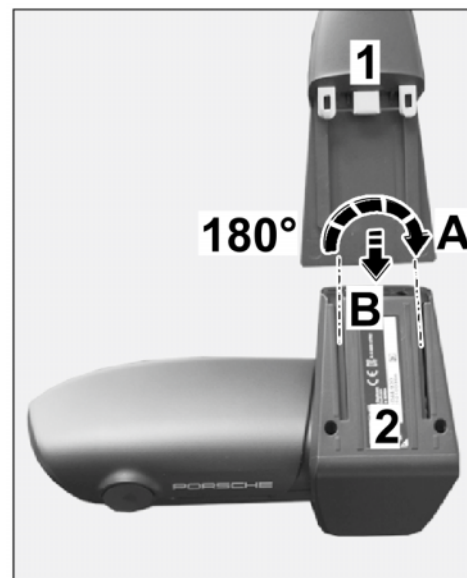

Figure 6
- 2.1.1 Install retainer plate with wire harness on the base of the front camera until the locking mechanism engages (\Rightarrow Figure 6).